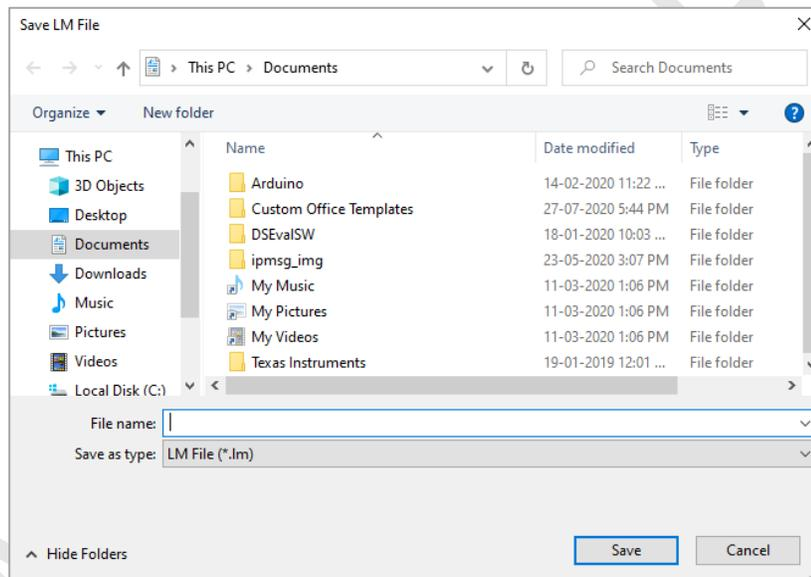

Figure 22 Selecting file location for saving data summary
- Open LMView-XS-E006 software Application to carry out analysis for process readings. The pop up window will appear as shown in figure 22. Select the appropriate file path and batch file name for saving the data summary and press button.